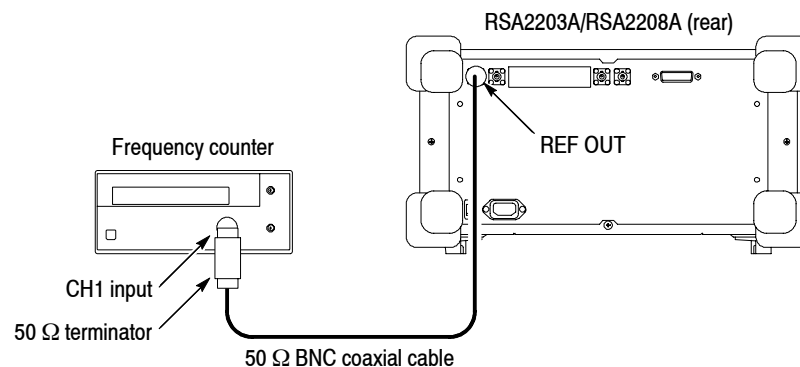

Figure 4-8: Initial test hookup
- a. *Hook up the frequency counter:* Connect **REF OUT** on the rear panel of the analyzer through a 50 Ω precision coaxial cable and a 50 Ω precision terminator to Channel 1 of the counter. See Figure 4-8.